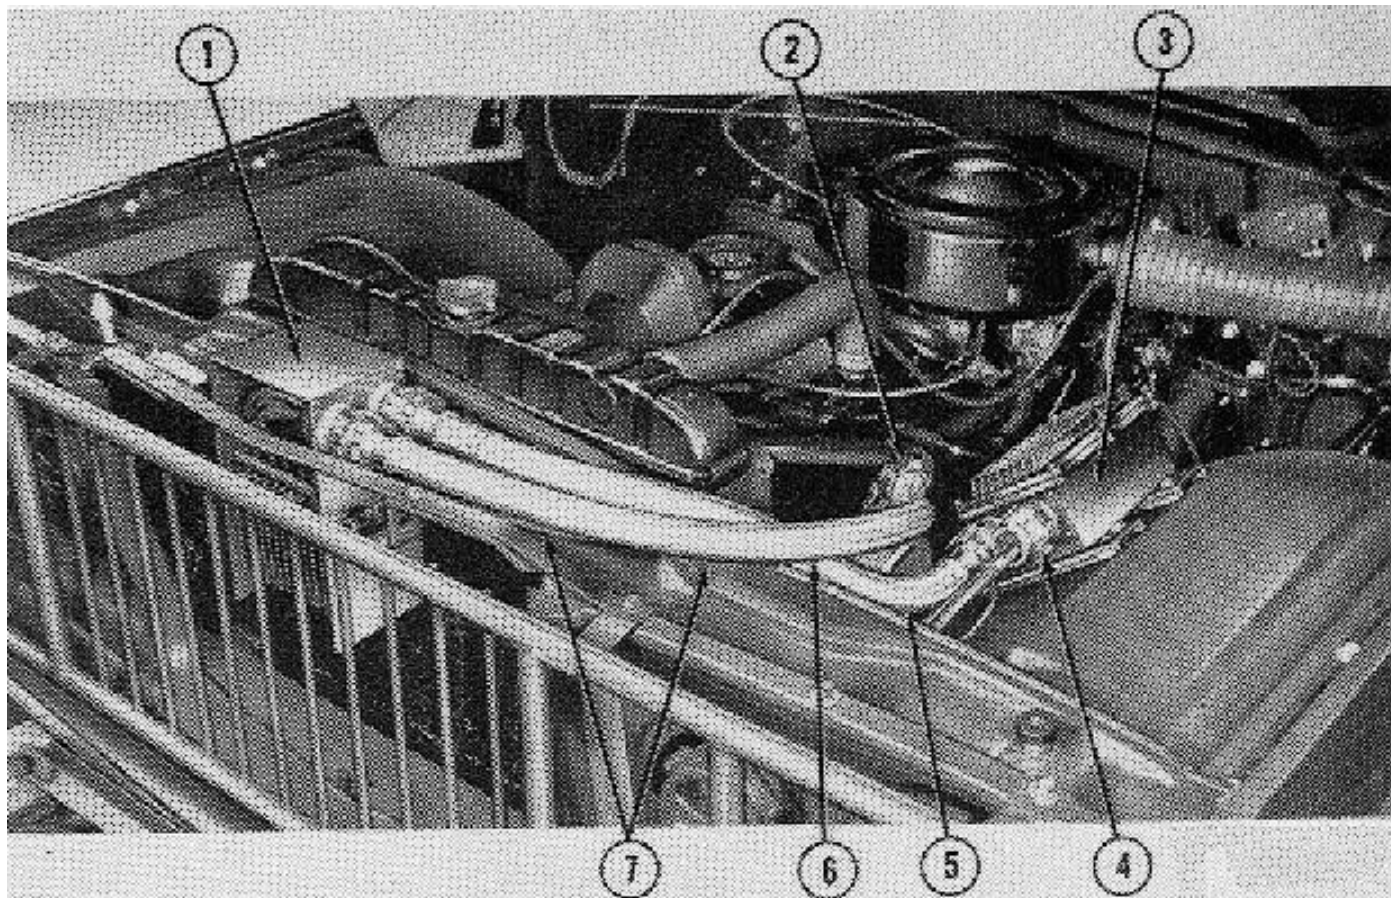

FIG. 33-E 10 WIRING HARNESES
- f. Connect the existing 60 amp. alternator lead to the connector of the short lead of the cable assembly. Refer to Fig. 33-E10.
- g. Connect ground cable to battery negative post. Refer to Fig. 33-E11 for correct wiring connections checking.